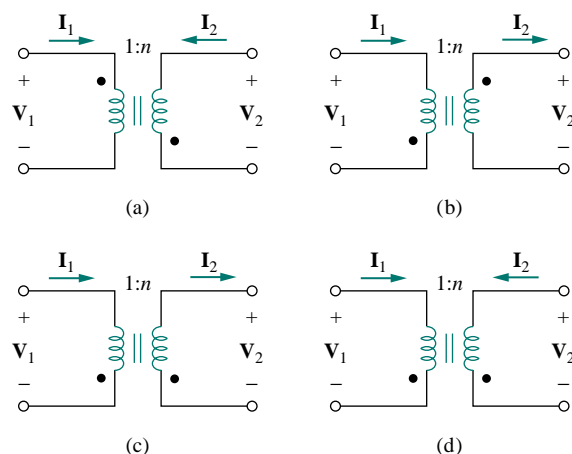

Figure 13.95 For Prob. 13.26.
- 13.26** As done in Fig. 13.32, obtain the relationships between terminal voltages and currents for each of the ideal transformers in Fig. 13.95.